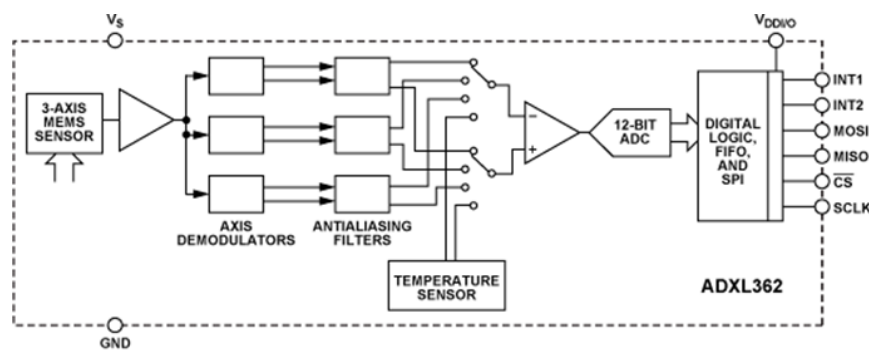
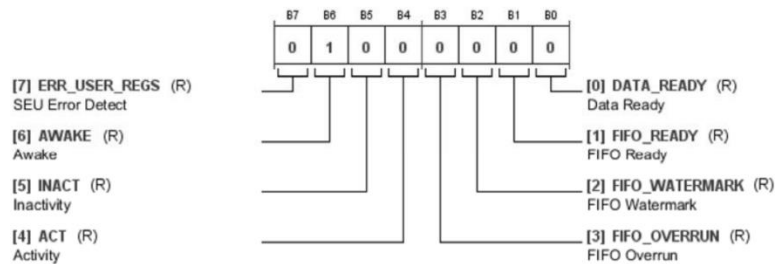

Figure 6: The architecture of ADXL362 [4].
Figure 7: Status registers with address 0x0B [4].
The ADXL362 is a complete 3-axis acceleration measurement device and can operate at extremely low power consumptions, only 2nA at 100Hz *Output Data Rate* (ODR). It can measure both dynamic acceleration, like motion or shock and static acceleration, like tilting. The output is digital via the SPI interconnection and has a maximum of 12-bit output resolution. It can take measurements in the range of ± 2 , ± 4 and ± 8 gees where ± 2 is standard. The architecture can be seen in figure 6 below, it has several built in applications like *First In First Out* (FIFO) buffer, SPI output, internal ADC, temperature sensor and accelerometer sensor, which makes it a very useful and versatile intelligent instrument.
In wake-up mode the ADXL362 is able to detect *Activity* or *Inactivity*. When activity or inactivity is detected the event is indicated in the status register with the *AWAKE* bit, see figure 7. This describes the status of the device, if there is presence of dynamic or static acceleration, and is used to perform pre configured tasks. The *AWAKE* bit can be mapped to the INT1 or INT2 pins (see figure 6) thus allowing the pin to serve as a status output. In figure 7 it can be seen that the *AWAKE* bit has read only access and when the bit is logic high (1), the accelerometer is in an active state. When the bit is logic low (0), the accelerometer is in an inactive state.
Activity is detected when acceleration remains above a specific threshold for a specific time period, bit 4 in status register is to logic high(1), see figure 7. Inactivity is detected when acceleration is below a specific threshold for a specific time period, bit 5 in status register is to logic high(1), see figure 7. The activity/inactivity time is set by an internal timer that can be set from 2.5ms to almost 90 minutes. It's important to notice that inactivity measurement is done after device has waited for the specified time period. If the activity/inactivity detection timer is set to 10 minutes, detection is done when the device has been stationary for 10 minutes.